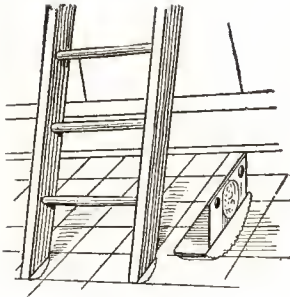

FIG. 33
**Steel Ladder Shoe:** See Figure 33. This is a simple little device for use on long ladders which have no more certain footing, sometimes, than a cement sidewalk or brick pavement.